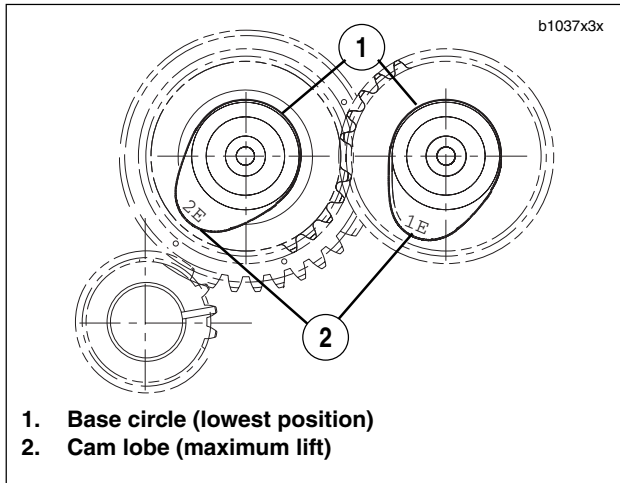

Figure 3-124. Base Circle
1. See Figure 3-124. Rotate engine so that both lifters from the cylinder will be installed on the base circle of the cam.